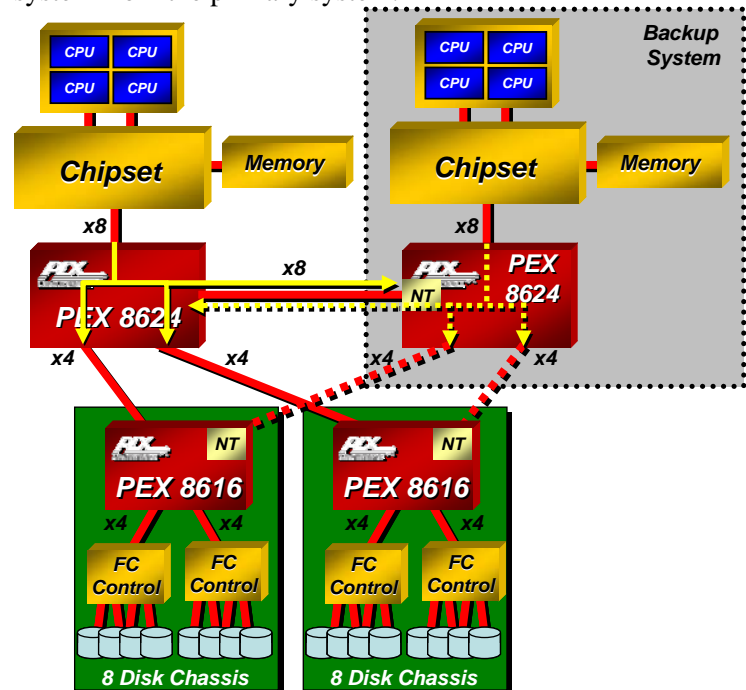

Figure 6. Dual Cast in Storage Systems
The PEX 8624's Dual Cast feature proves to be very useful in storage systems. In the example shown in Figure 6, the Dual Cast feature enables the PEX 8624 to copy data going to its two downstream ports to the backup system and vice versa (see yellow traffic patterns) in one transaction as opposed to having to execute two separate transactions to send data to the redundant chassis. By offloading the task of backing up data onto the secondary system, processor and system performance is enhanced. Non-Transparent (NT) ports are used to isolate the host domains of the backup system from the primary system.